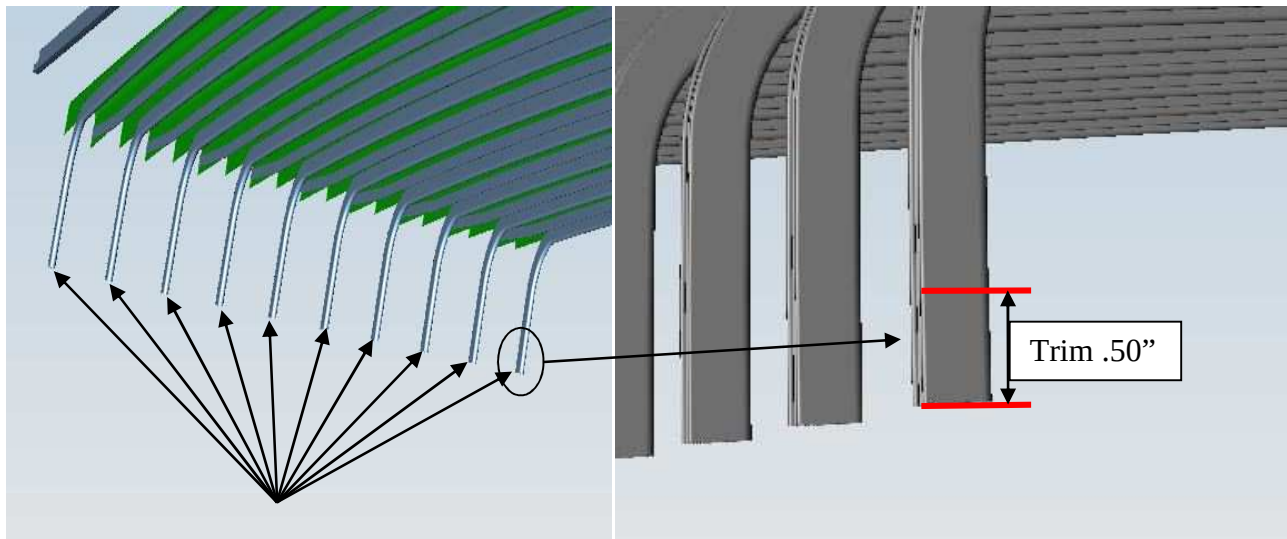

Figure 2: Trim the end legs, both sides.
3. Trim .50” off all the end legs as shown in figure 2.